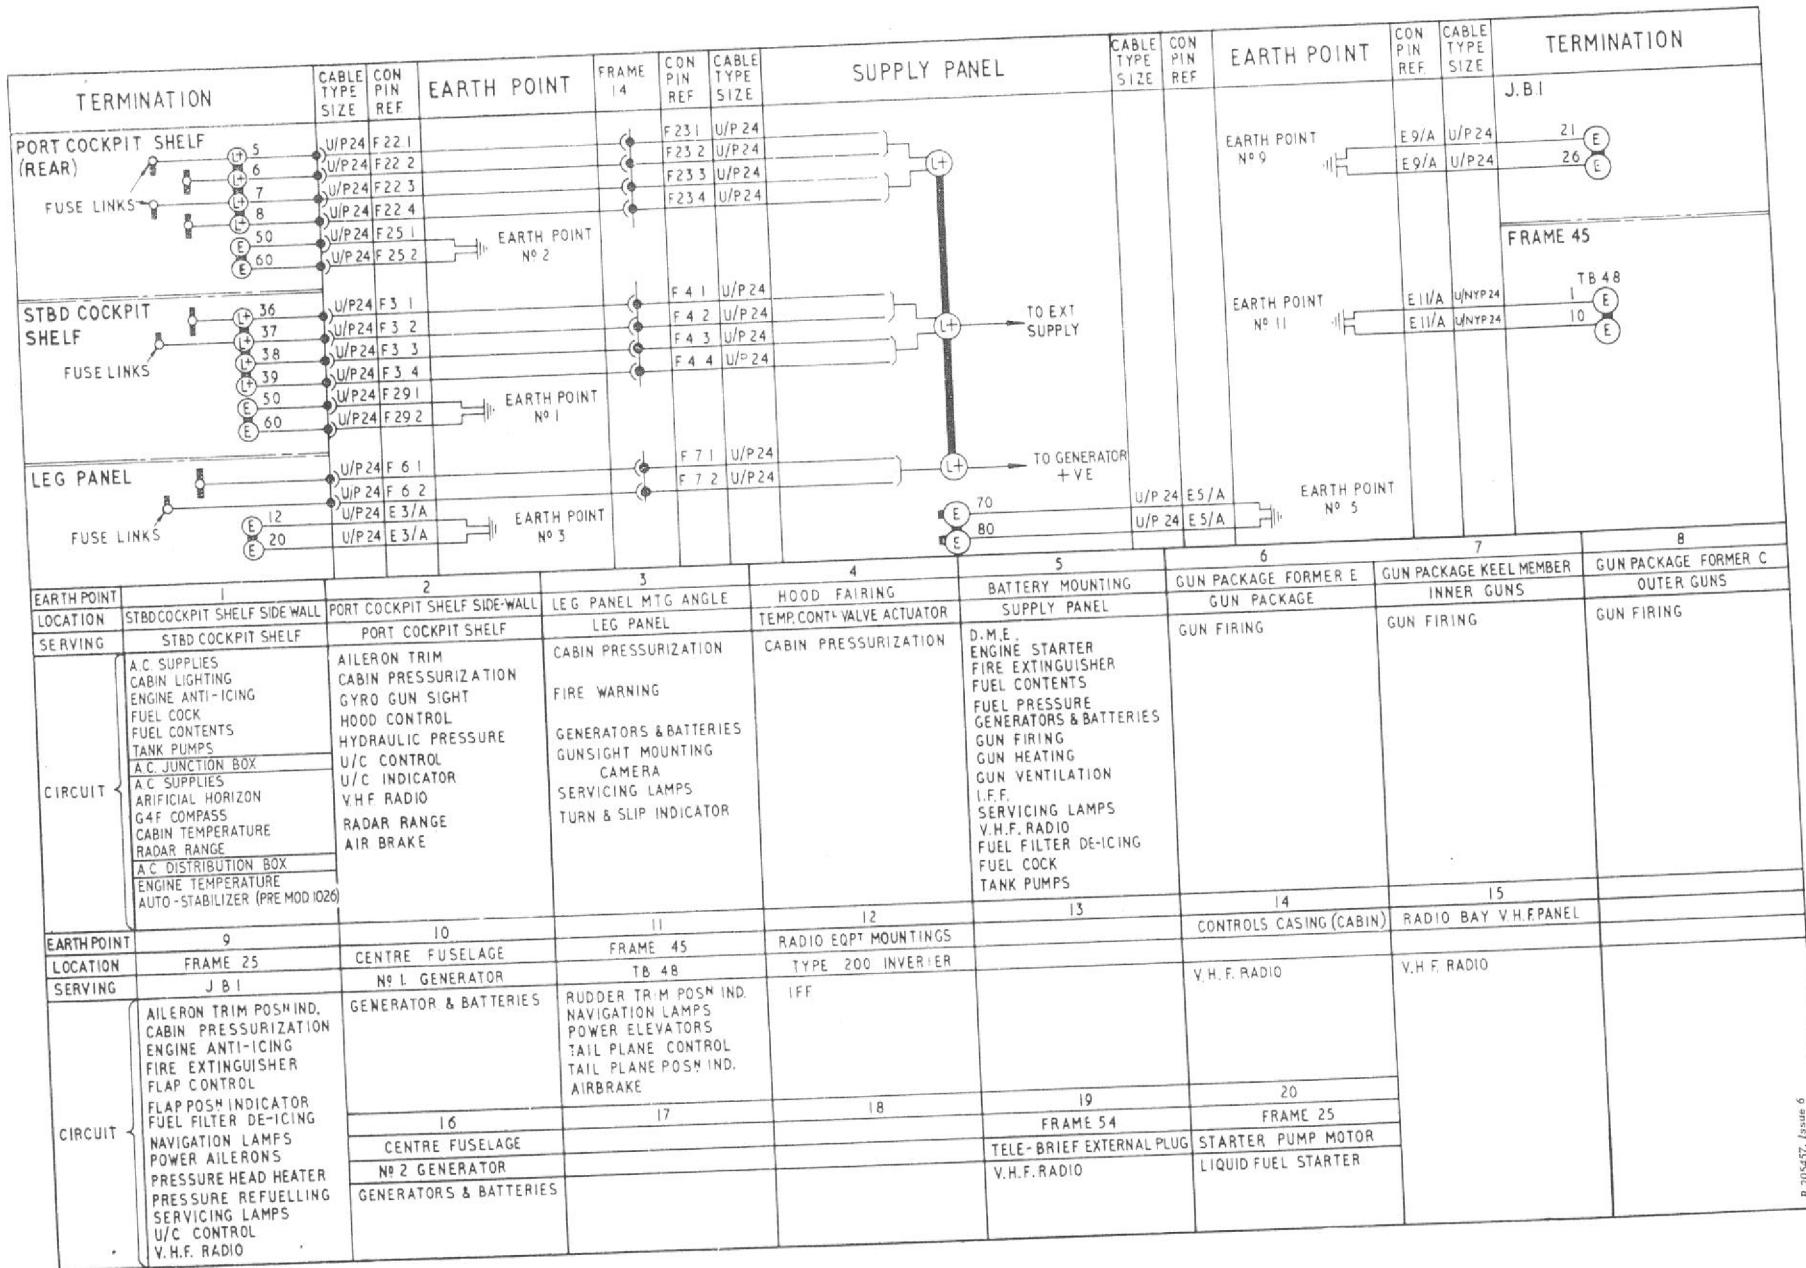

Fig.1 Supply and earth routing chart
craft. The majority of the cable assemblies are provided with fully weatherproof multi-pole plug and socket breakdown points. Whenever possible the cable connections to the plug and socket pins are crimped. To facilitate servicing and testing, the earth return connections are restricted in number and taken to stud type earth points, which are shown on the cable assembly layout, (Group A.3, fig.1) and listed on the supply and earth routeing chart, fig.1 of this group.
4. The generators are mounted on, and driven by the auxiliary gearbox situated in the engine bay, and their control equipment is mounted on a panel located on the starboard side of the radio bay. The batteries are mounted on a platform also located in the radio bay. The supply from the generators and batteries to the fuse bus-bars is shown, together with the earth return points, on fig.1 of this group.